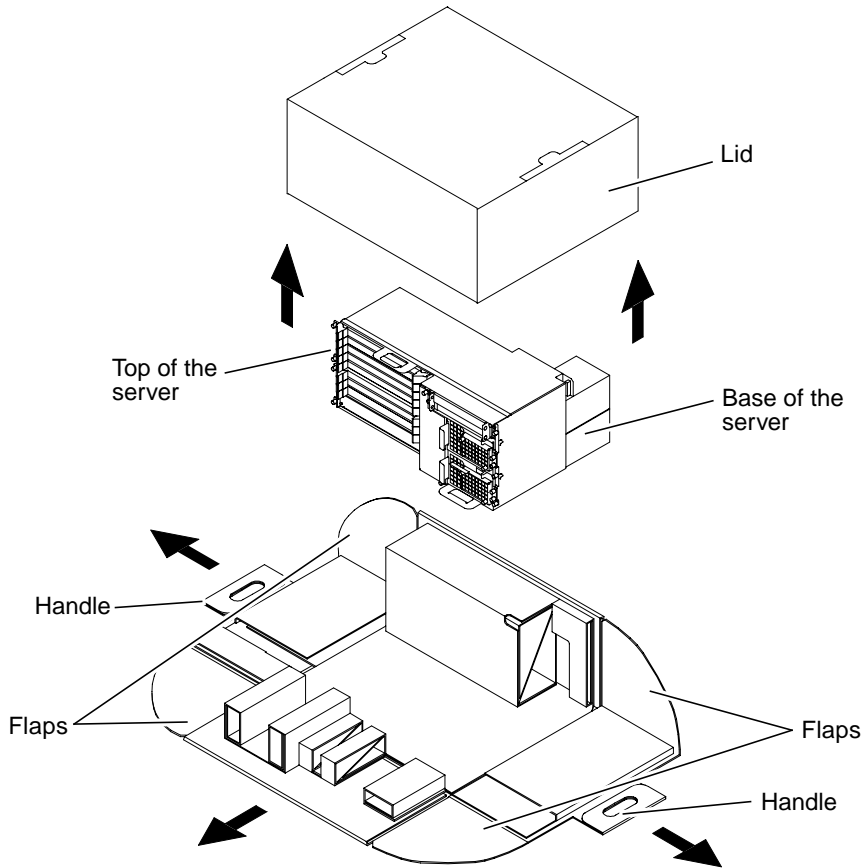

FIGURE 4-1 Unpacking a Netra ct Server
2. Lift the lid of the box straight up to remove the lid (FIGURE 4-1).
3. **Grasp one of the handles and pull the handle down and away from the box until both flaps come completely free from the box sides (FIGURE 4-1).**
5. **Grasp the top of the server and tip the server up until it is resting on its base (FIGURE 4-1).**